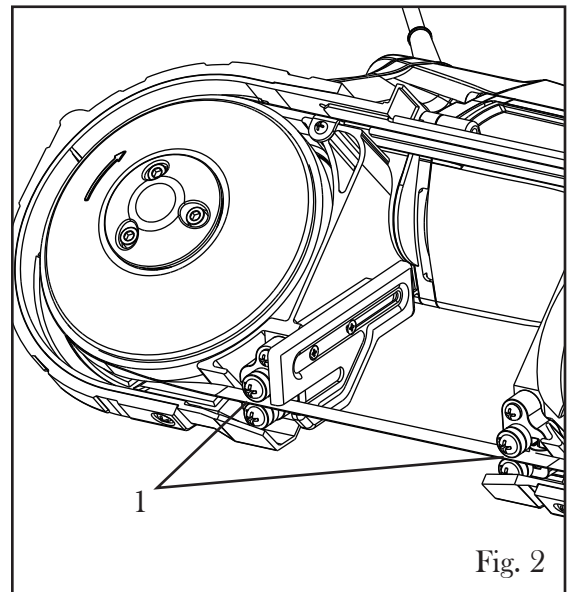

Fig. 2
2. Flip the saw over to the back side. Hold the saw blade with the blade teeth facing towards you, and insert it between the two sets of guide bearings (Fig. 2 - 1). Make sure the blade is fully seated between the guide bearings - the spine of the blade should be in contact with the rear thrust bearing.